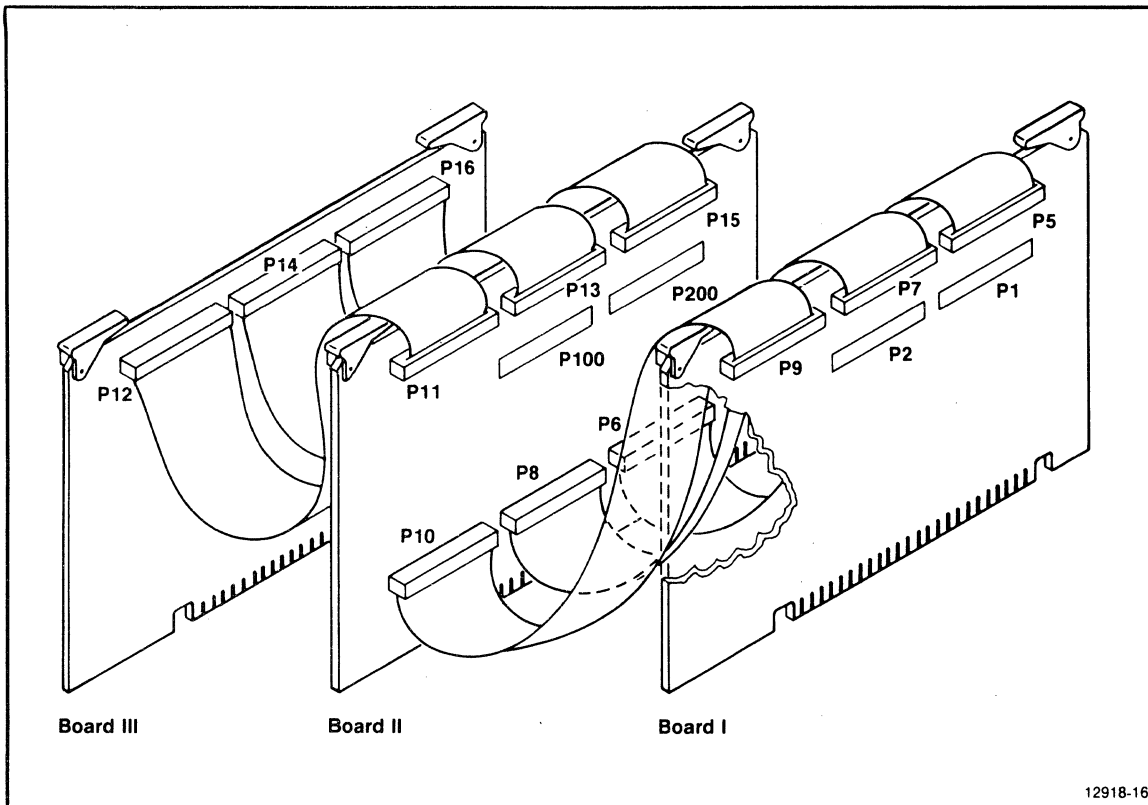

Figure 6-2. 80186/80188 Emulator board interconnections.
5. Connect Boards I, II, and III together, using the six 50-conductor ribbon cables provided. Dress the cables as illustrated in Figure 6-2.